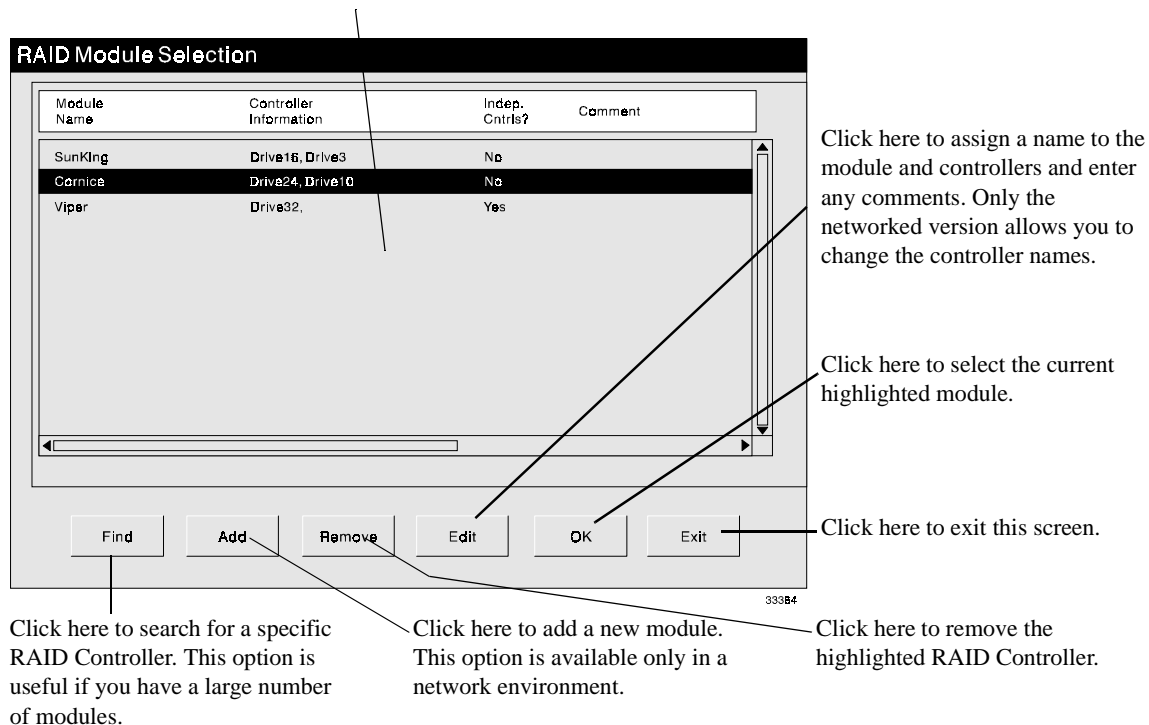

Figure 11. RAID Controller Module Selection Screen
- If the correct parameter is turned on in your rmparms file (it is turned on by default), you are given the chance to select a RAID Controller Module when you first start an application (see Figure 11 on page 35). Either highlight a module and select OK or double-click on the module you want.